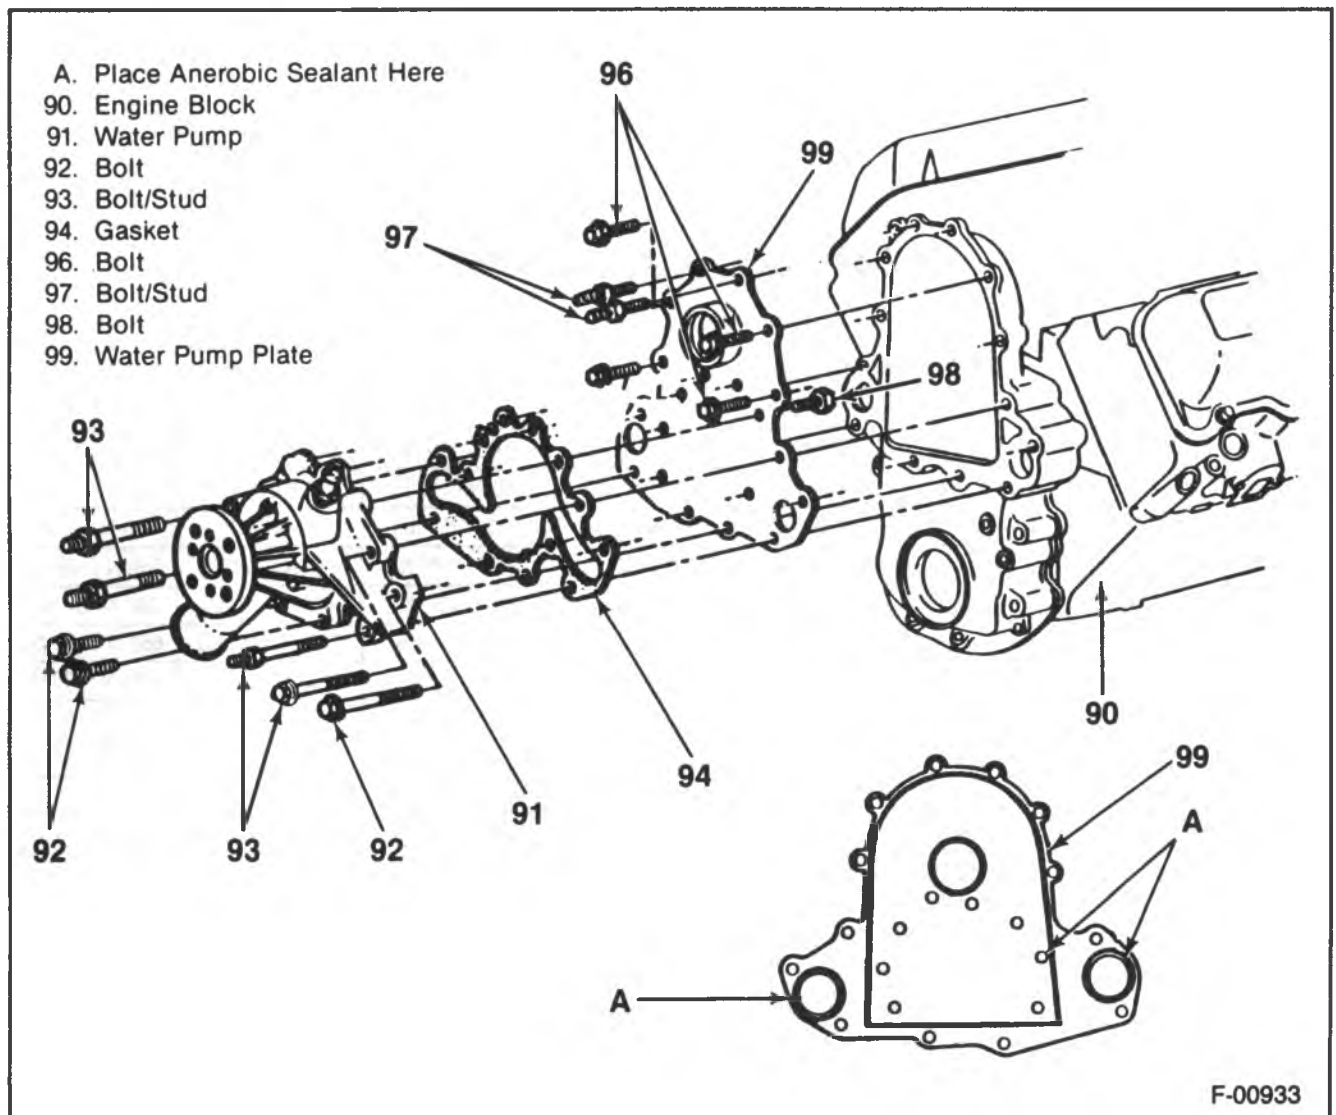

Figure 54 — Water Pump Installation — 6.2L Diesel
Remove or Disconnect (Figure 54)
12. Bolts (96 and 97), water pump plate (99) and the water pump (91) (figure 54).
13. Water pump plate (99) from the water pump (91).
14. Bolts (92 and 93) and the gasket (94).
Install or Connect (Figure 54)